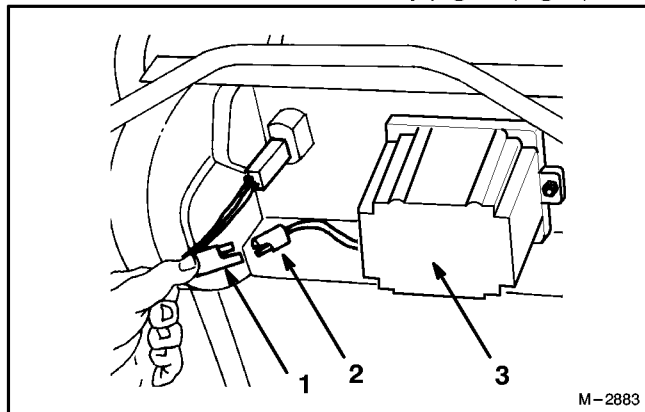

Figure 8
2. Connect wire harness to battery pigtail (Fig. 8).